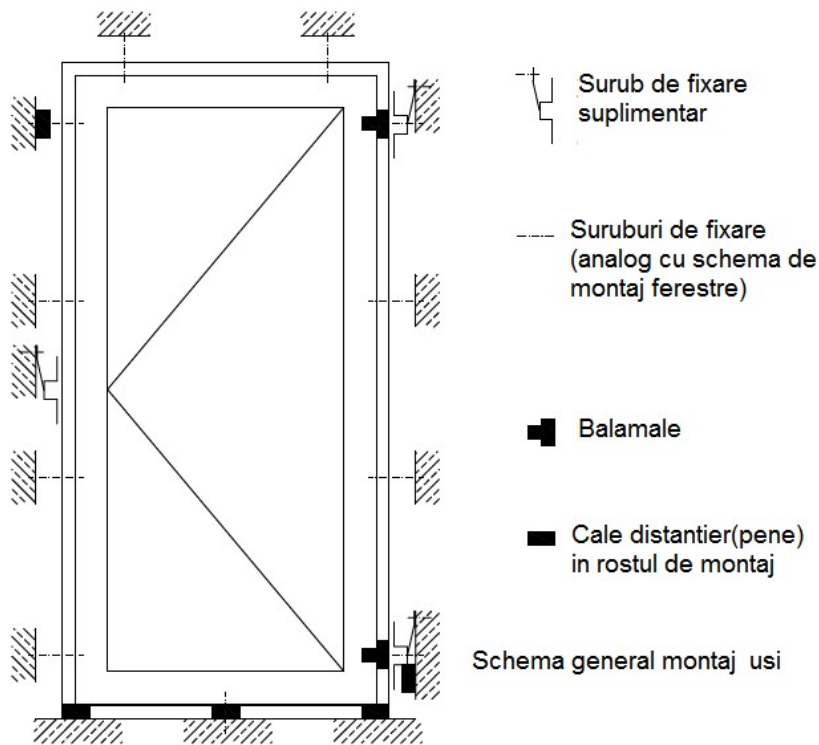

Fig.3 General diagram of door assembly
This concept includes all forces that are determined by the self-weight of the joinery elements. In order to transmit the loads, the frames must be wedged and fixed in the masonry by means of conventional fastening elements (see Fig. 3 and 4).
- In order to transmit loads (in particular, the window's own weight) in the long term, it is recommended that the support elements (tracks) remain mounted in the construction joints in the lower part (see Fig. 3)